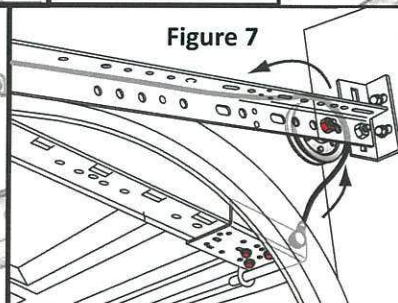

Figure 7
Step 7: Attach the looped end of the Lifting (longer) Cable to the Cable Button on the right side Bottom Fixture (Fig 7). Then bring the cable up and over the right side Stationary Pulley as shown in Figure 7.